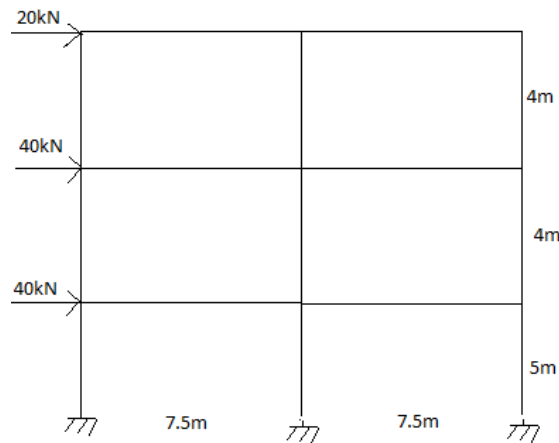

Fig 1
| b) | Analyse the frame shown in figure 1 using portal method | (13) |